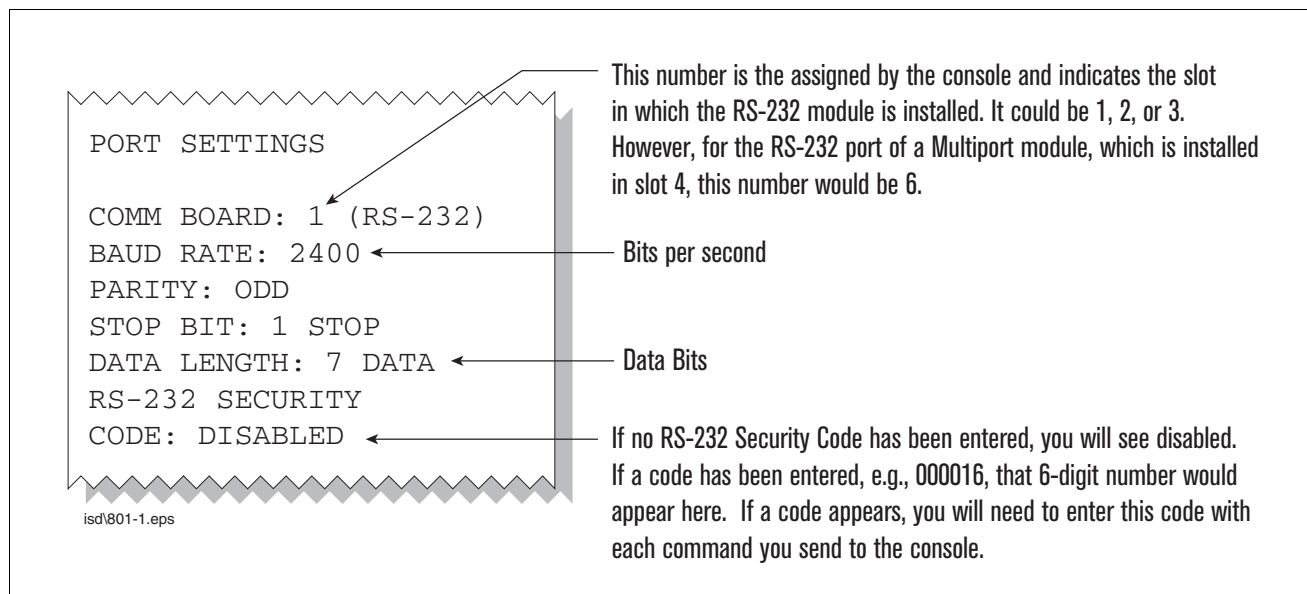

Figure 28. Console comm port settings printout example
- d. Press the PRINT key to printout the port settings for all communication modules installed in the console. Figure 28 shows an example port settings printout with the RS-232 module installed. Using the console port settings in the example below, your HyperTerminal 'Port Settings' window entries would be Bits per second - 2400, Data bits - 7, Parity - Odd, Stop Bits - 1. For the 'Flow Control' entry select None. Click OK.